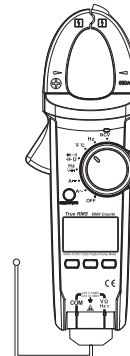

Fig. 6
**5.Measurement of temperature (shown as Fig. 6)**